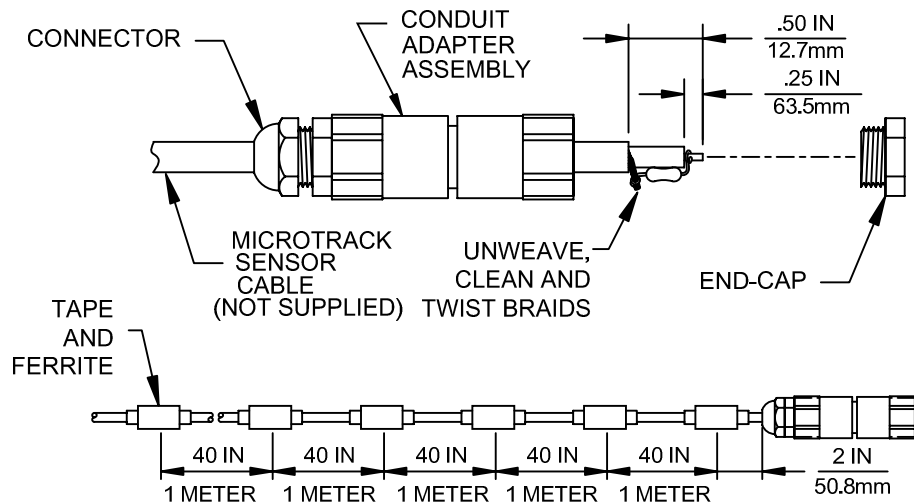

Figure 6.18 - Sensor Cable End of Line Termination (MTT)
The assembly instructions for the MTT are shown in the following steps 1 through 8 and as illustrated in Figure 6.18.
- **Step 3:** Slide the Conduit Adapter Assembly over the end of the MicroTrack II Sensor Cable as shown in Figure 6-18.
- **Step 4:** Strip the end of the Sensor Cable to the dimensions shown in Figure 6-18. Clean the braid thoroughly using Goo Gone, WD40, Xylene, Kerosene, or Mineral Spirits to remove the flooding compound.
- **Step 5:** Attach the resistor to the end as shown in Figure 6-18. Twist the resistor leads around the center conductor and also around the braid wires. Make sure that no free ends of the braid are in contact with the center conductor. Keep the wire leads as short as possible, as shown.
- **Step 8:** Slide the Ferrites to the positions shown in Figure 6-18 and secure them in place using the Rubber Splice Tape provided. **When applying the tape, stretch the tape to about twice its original length as the tape goes on.** Be sure to remove the backing paper from the tape. Cover the entire ferrite and at least 0.75 inches (19mm) of the Sensor Cable on both ends of the Ferrite. Avoid leaving any air gaps for water to enter around the Ferrites.